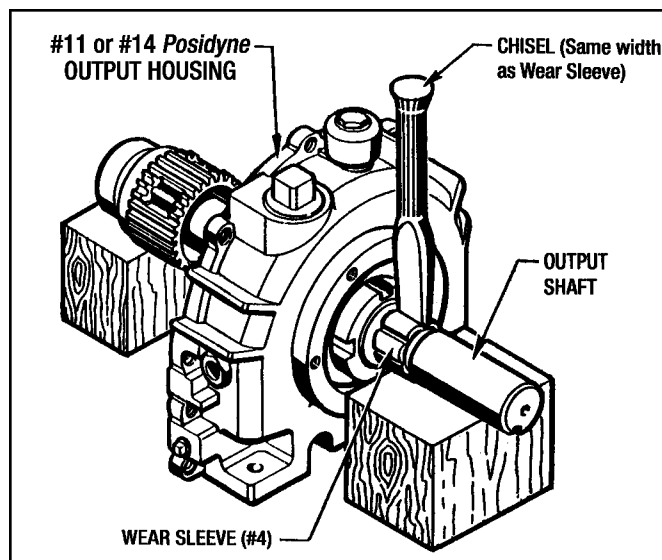

Figure 7.6 - Wear Sleeve Removal
6. Remove the Wear Sleeve (#4) as shown in Figure 7.6 and described in **WEAR SLEEVE REMOVAL PROCEDURE - Section 7-16.**
With a chisel, the same width as the Wear Sleeve, make about 5 or 6 notches in the ring parallel to the Output Shaft. It can now be removed from the Output Shaft by hand. (See Figure 7.6)